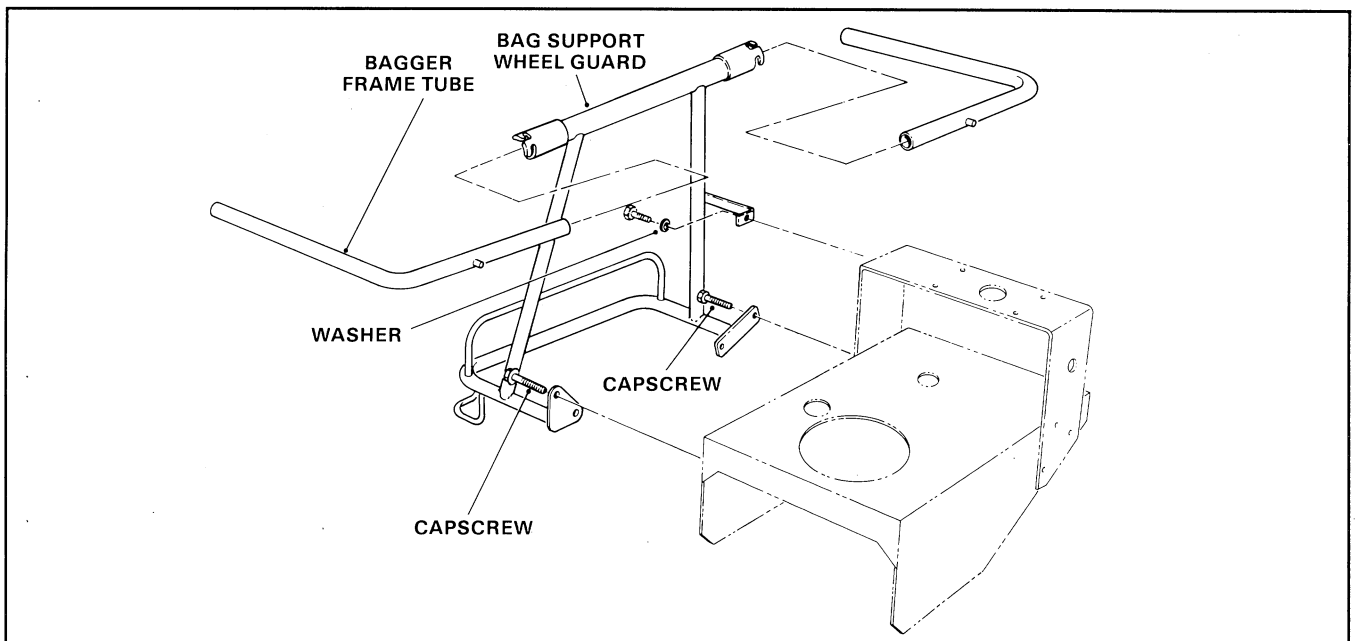

Figure 3
4. Loosely secure front of wheel guard / bag support to carrier frame and frame with (2) 1/2 - 13 x 1-1/4" lg. flange head capscrews (supplied in loose parts bag) and locknuts previously removed, as shown in fig. 3.
parts bag) and locknuts previously removed, as shown in fig. 3.
6. Using capscrew and previously removed and flat-washer (supplied in loose parts bag) secure wheel guard / bag support bracket, top of R.H. bracket support, idler bracket, spring and spacers to rear frame (Fig. 3). Make sure spring is hooked to frame and hole in idler bracket. Tighten all mounting screws and lock-nuts.
7. Insert a bagger frame tube into each end of bagger support and lock in slots (Fig.3).